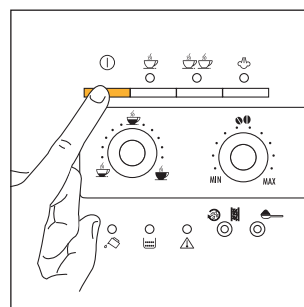

Fig.4
- Move the milk frother towards the outside and place a cup underneath (Fig.3). Then turn the machine on by pressing the ① button (Fig.4).